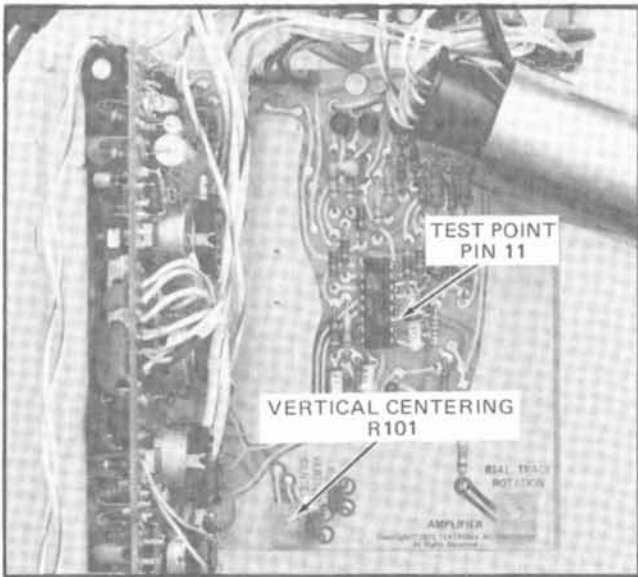

Fig. 4-6. Location of Vertical Centering adjustment and test point.
- a. Connect the DC Voltmeter between pin 11 of U105, on the Amplifier (A-2) board, (positive meter lead to pin 11) and ground. See Fig. 4-6.
- d. ADJUST—Vertical Centering, R101 (see Fig. 4-6) to position the trace to the center horizontal graticule line.